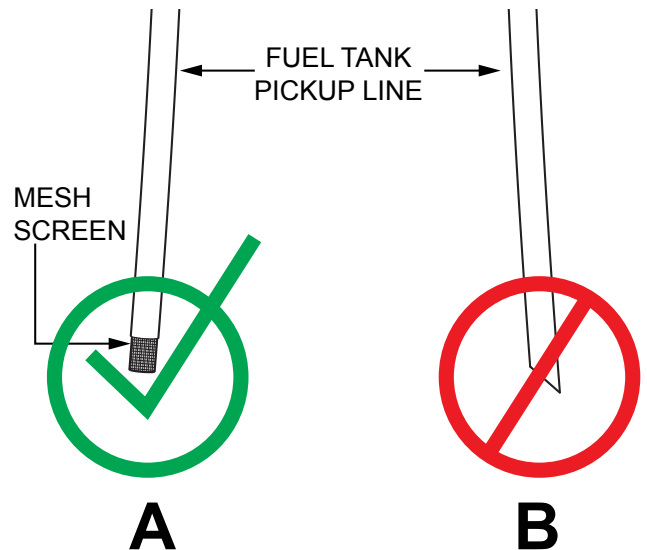

Figure 5. Fuel Tank Pickup Line Inspection
4. Inspect the fuel tank pickup line (Figure 5). **If there is a mesh screen** on the end of the pickup line (Figure 5A), proceed to the “**Existing Fuel Line Reinstallation**” section.